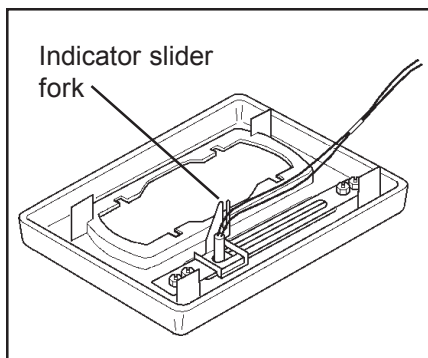

Figure 4
STEP 10. Put the black painted console top plate into the slots in the console. Do NOT put the steel spring clips onto the tabs. With the ignition off, connect the red wire of the LED indicator to the hot wire and the black wire to the ground wire that you prepared in step 8. Check that the LED is illuminated when the ignition is turned on. Put the plastic cover into the slots in the steel console top plate, do not put the spring clips on the tabs at this time. The fork on the indicator slider must be put over the brass indicator drive pin on the shifter. See **figure 4**. Snap the indi-